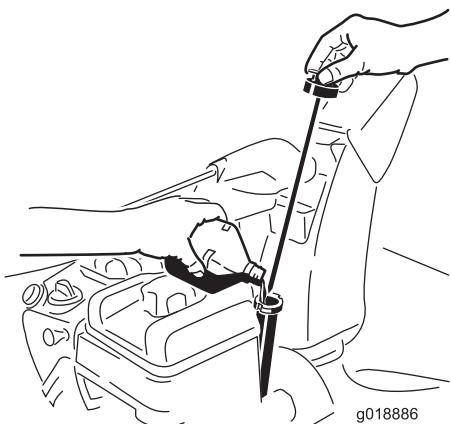

Figure 13
1. Remove the dipstick and slowly pour oil into the oil fill tube to raise the oil level to the Full mark on the dipstick. **Do not overfill.** (Figure 13).